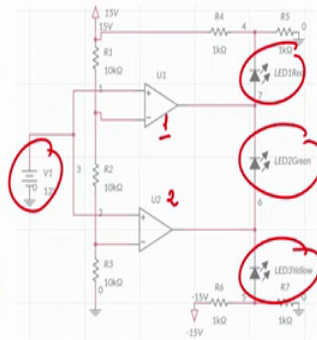

Figure 2
- Connect the circuit as shown in the Figure 2.
Let us see in this particular case if I want to design a window detector, that means that how can I design window director. So, here how you will know output is on or output is low or output is high. So, here what we have to create is a LED, we have created a LED that will give us the indication right of this window. So, what is that connect the circuit shown in figure 2, ok we will connect the circuit like this.